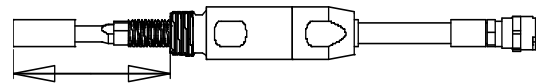

Figure 9-1 Forward Valve Dimension
2. Measure distance as shown in Figure 9-1.